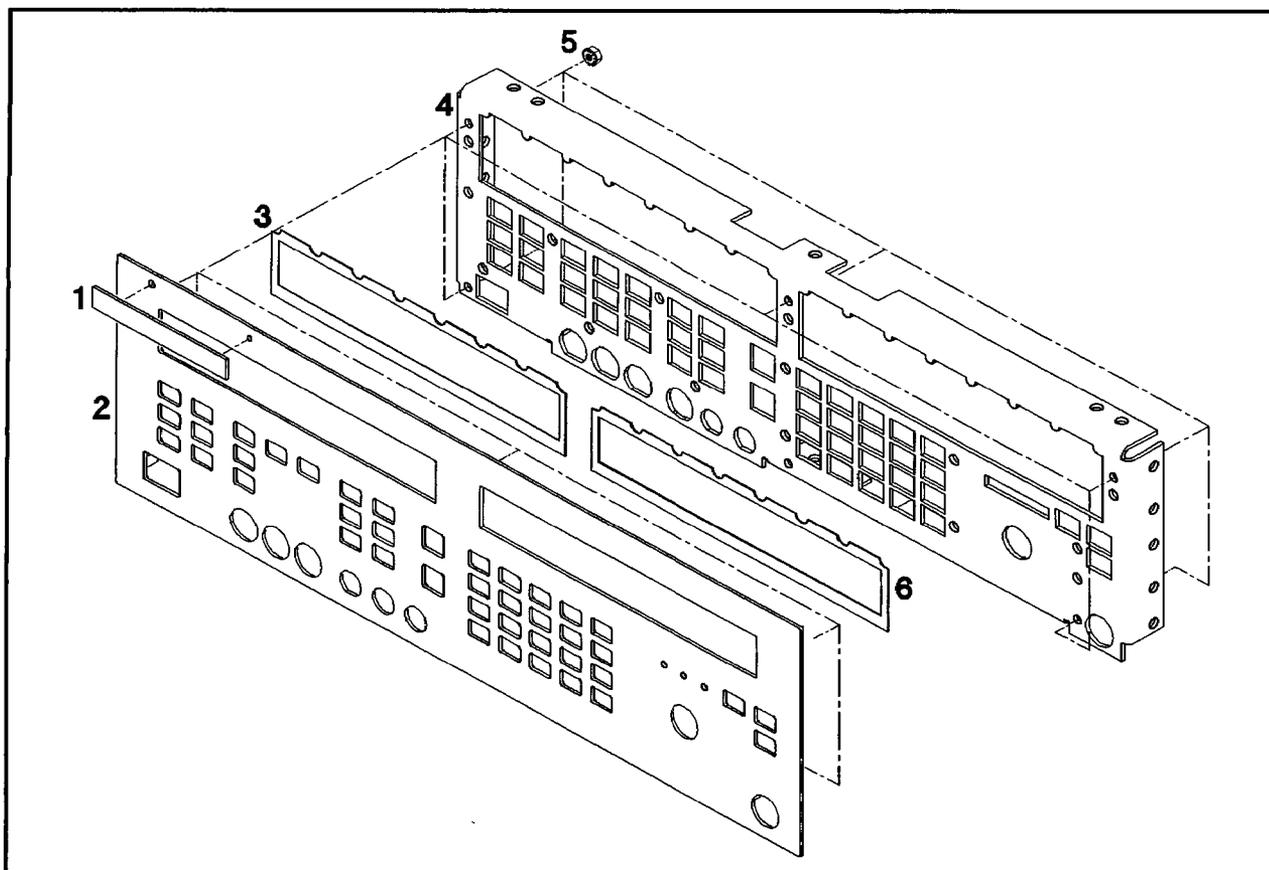

Figure 5-42. Dress Panel Removal
1. Remove the five hex nuts from the inside of the front subpanel and dress panel. (See Figure 5-42.)